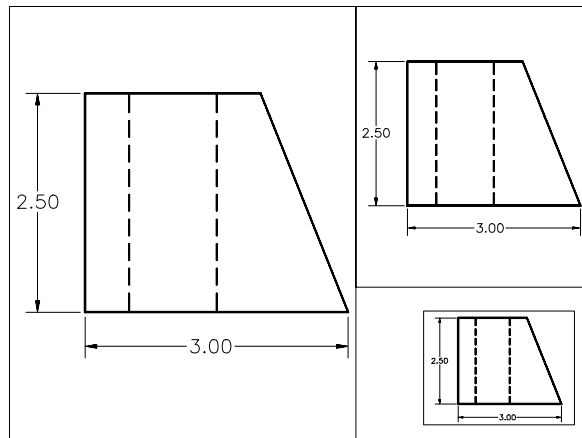

Figure 12-19 Varying sizes of the dashed lines with **PSLTSCALE** = 0
By default, the linetype scaling is controlled by the **LTSCALE** system variable. Therefore, the display size of the dashes depends on the **LTSCALE** factor, on the drawing limits, or on the drawing units. If you have different viewports with different zoom (XP) factors, the size of the dashes will be different for these viewports. Figure 12-19 shows three viewports with different sizes and different zoom (XP) factors. You will notice that the dash length is different in each of these three viewports..